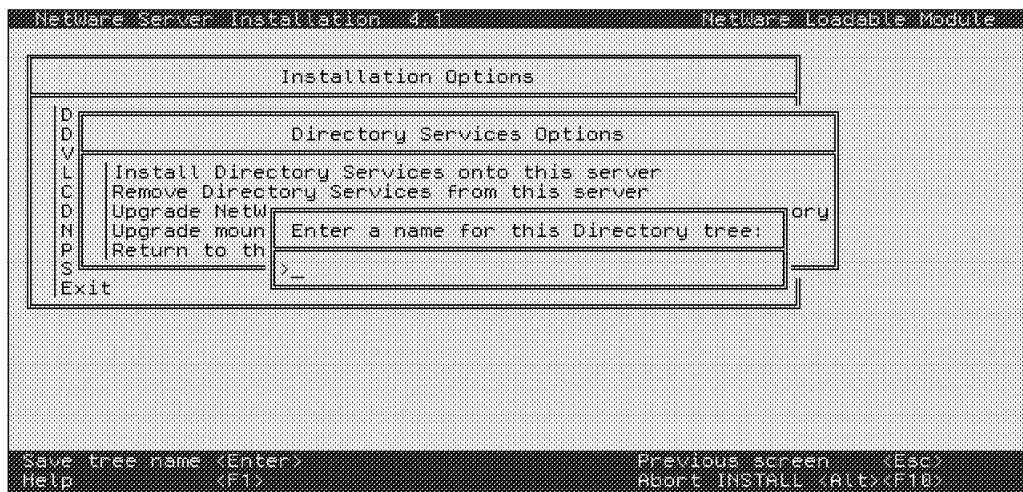

Figure 78. Assigning a Name to a Directory Tree
- e. A screen like the one in Figure 78 will appear. Enter a name for this directory tree and press Enter.